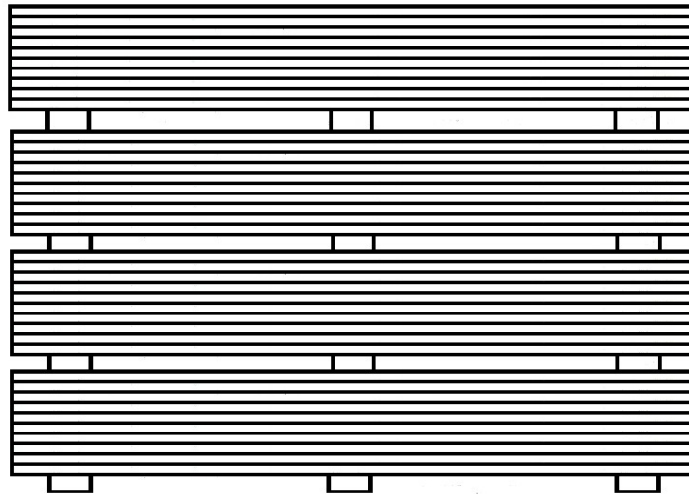

Figure 3-139
5. Ensure personnel stack pallets 40 high with three pieces of dunnage between each group of ten pallets (see Figure 3-139).